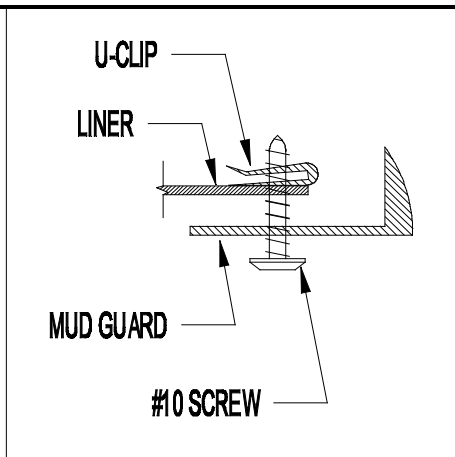

Figure 2
7. Install a #10 screw through location D and into a U-clip on the backside of the liner (Figure 2).